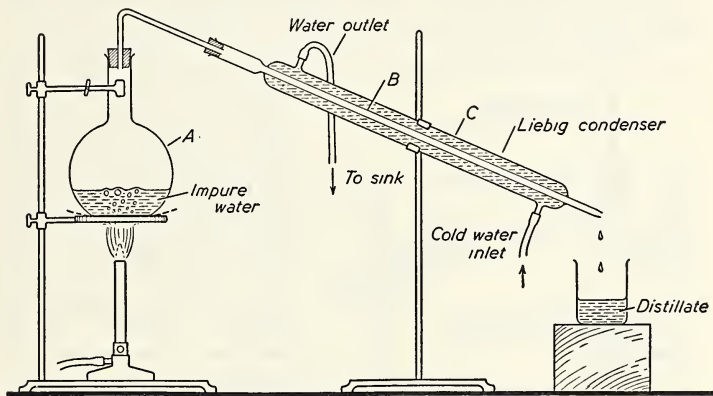

Fig. 39. The distillation of water using a Liebig condenser.
2. Set up a distilling apparatus as shown in Figure 39. Pour the mixture from Procedure 1 into the flask (A), connect the lower rubber tubing attached to the condenser to a water tap, and lead the other